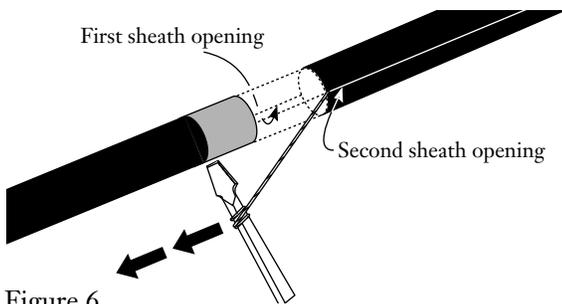

Figure 6
4.6 Using the shaft of a screwdriver as a handle, pull one rip cord at a time through the sheath to the wrap of tape (Figure 6). Be sure to pull the rip cord through the sheath on the same side of the steel rod as the cord is located.